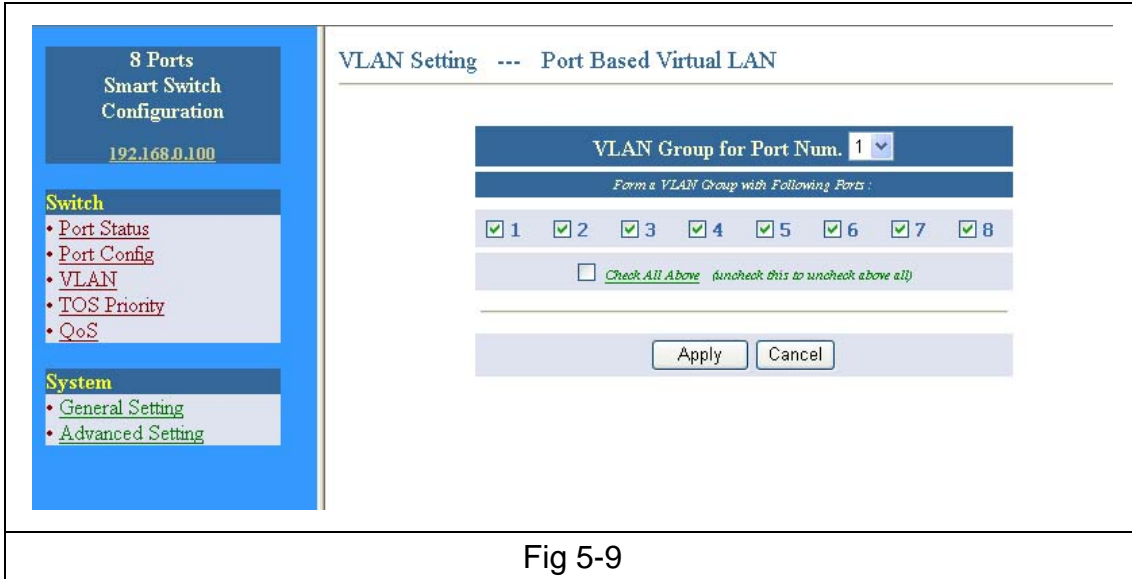

Fig 5-9
1. Select VLAN group number. It supports 8 VLAN Groups. (Fig 5-9).